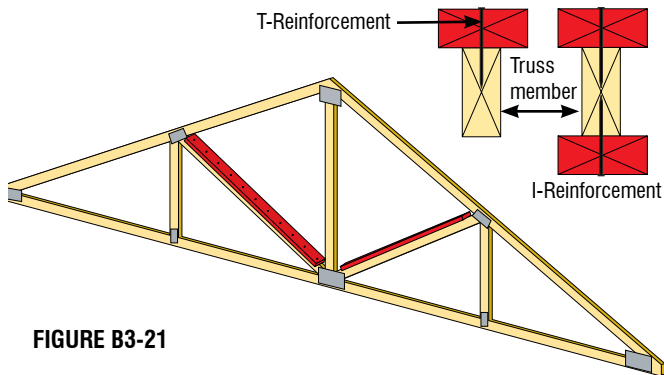

FIGURE B3-21
- ✓ I- and U-Reinforcement are similar to T- and L-Reinforcement, respectively, except that two (2) pieces of lumber are added, one to each narrow face of the Web. Refer to Figure B3-21 and B3-22, respectively, for examples of I- and U-Reinforcement..